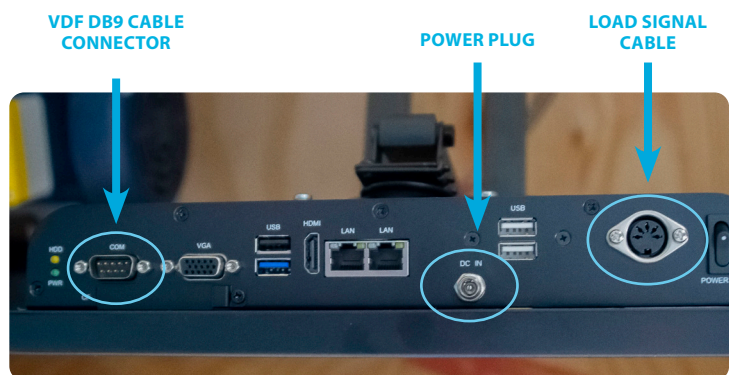

Fig. 2c: Cable connections
- Connect the power plug, round load signal cable, and Variable Frequency Drive (VFD) cable DB9 connector to their respective ports on the interface. Tighten the screws on the DB9 with a screwdriver so they are snug, but do not overtighten (see Fig. 2c).